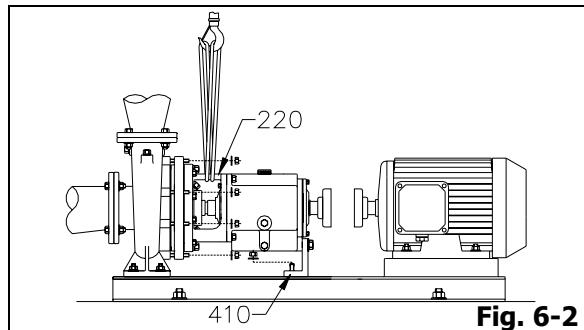

Fig. 6-2
- Place sling from hoist through frame adaptor (220).
- Remove support foot (410) hold down bolts and nuts.
- Remove casing nuts (Fig. 6-2).